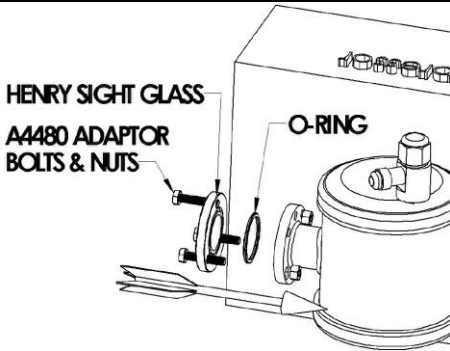

Figure 3: Henry Sight Glass
2. Insert one standard O-ring into the groove of the oil regulator's second flange. A light lubrication of refrigerant oil on the O-ring will aid sealing. See Figure 3. (Note: insert a quad ring instead of the O-ring for a 3 bolt sight glass with a groove – refer to point 5 below).
- a. The sight glass supplied by Henry Technologies has a smooth face on both sides; it assembles directly on to the second flange. Fit the sight glass with the ridged side of the glass towards the flange. This is the recommended option for a Bitzer 4 bolt sight glass with a non-standard O-ring groove (see Figure 3).